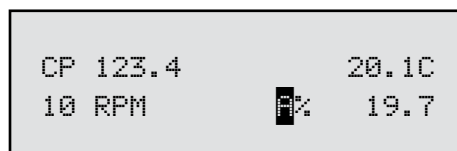

Figure IV-13
3. When data averaging taking place, a flashing A will be displayed to the left of the % Torque sign as shown in Figure IV-13.